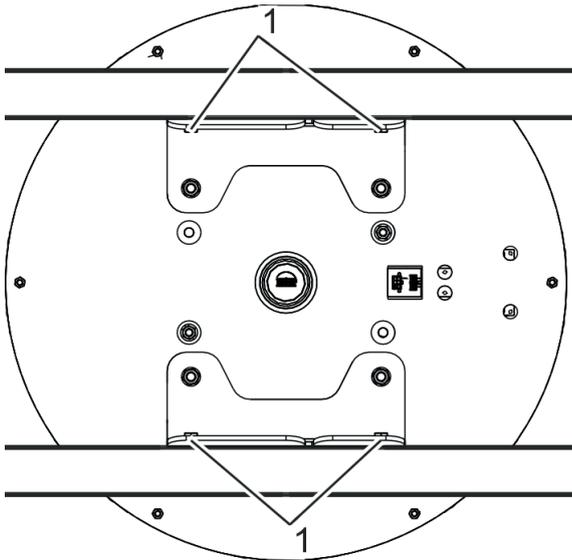

Fig. 98 Operator
11. Loosen operator mounting screws (Fig. 98/1) slightly and lower operator onto flange of upper cross fitting.
14. Tighten the operator mounting screws (Fig. 98/1).